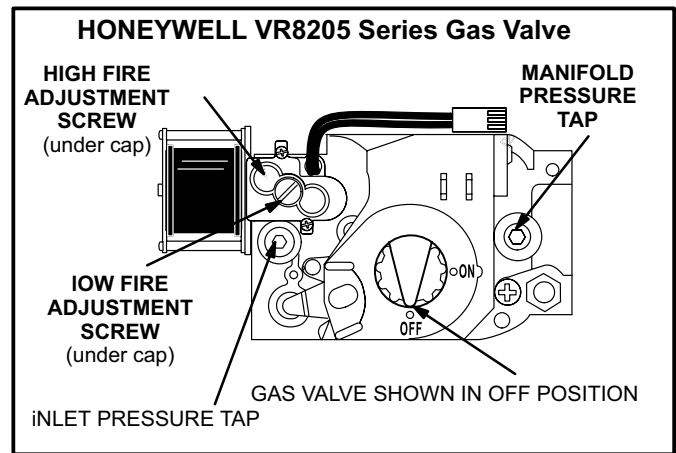

FIGURE 16
All units use a two-stage gas valve manufactured by Honeywell (figure 16). The valve is internally redundant to assure safety shut-off. If the gas valve must be replaced, the same type valve must be used.
- 6 - *Honeywell VR8205 Gas Valve* - Turn knob on gas valve clockwise  to **OFF**. Do not force. See figure 16.
8 - *Honeywell VR8205 Gas Valve* - Turn knob on gas valve counterclockwise  to **ON**. Do not force. See figure 16.